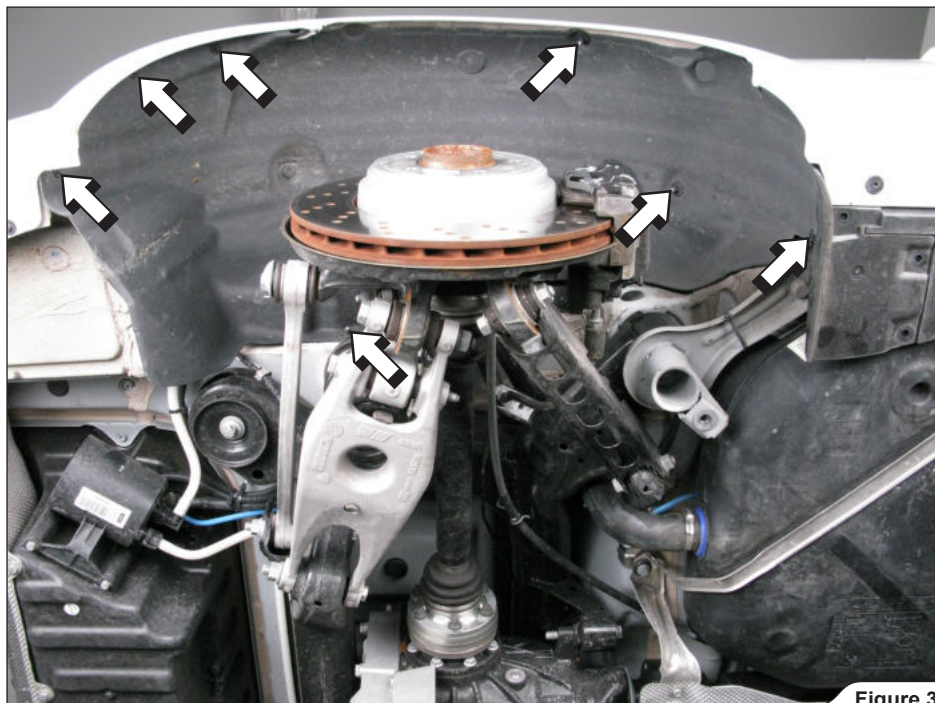

Figure 3
4. Remove the rear right wheel. Unscrew the marked nuts, undo the plastic fasteners and remove the rear right side wheel arch panel off the vehicle (**Figure 3**).